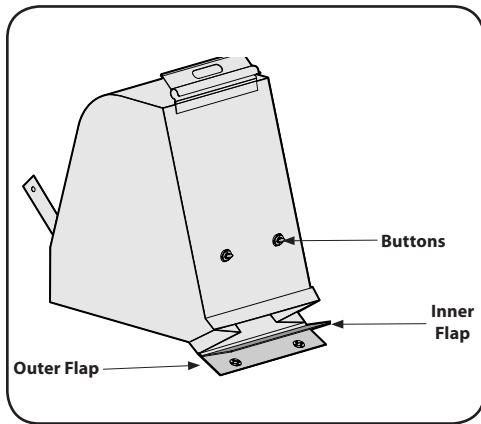

Figure 4-3
- Twist the two buttons on the back of the bag to unlock and empty contents. See Figure 4-3. Hold bag handle and bag clip while emptying the contents.
- Fold outer flap over inner flap and insert buttons on the bag through metal outlets. See Figure 4-3.